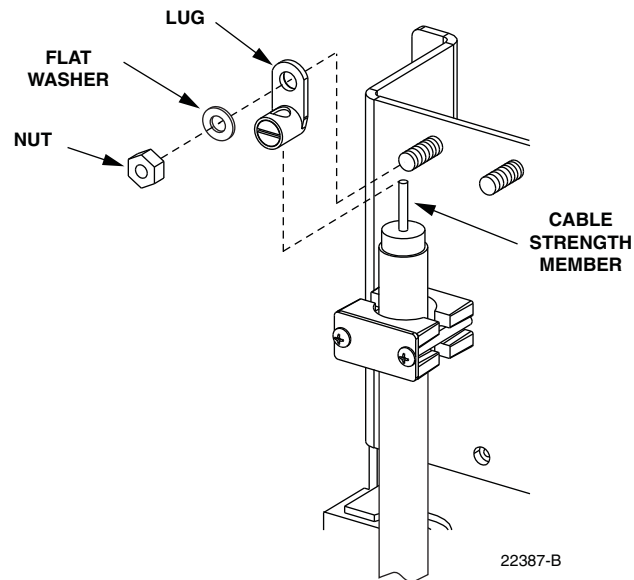

Figure 19. Strength Member Lug Installation
9. Insert the central strength member into the lug as shown in Figure 19 and then install the lug on the cable bracket.